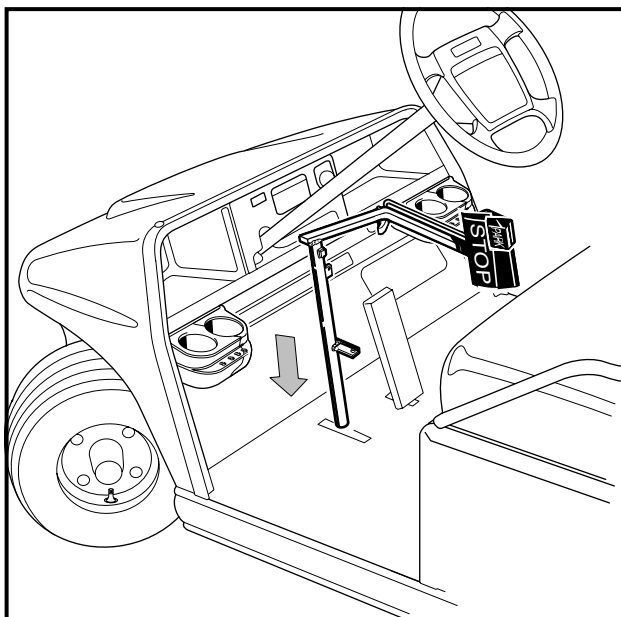
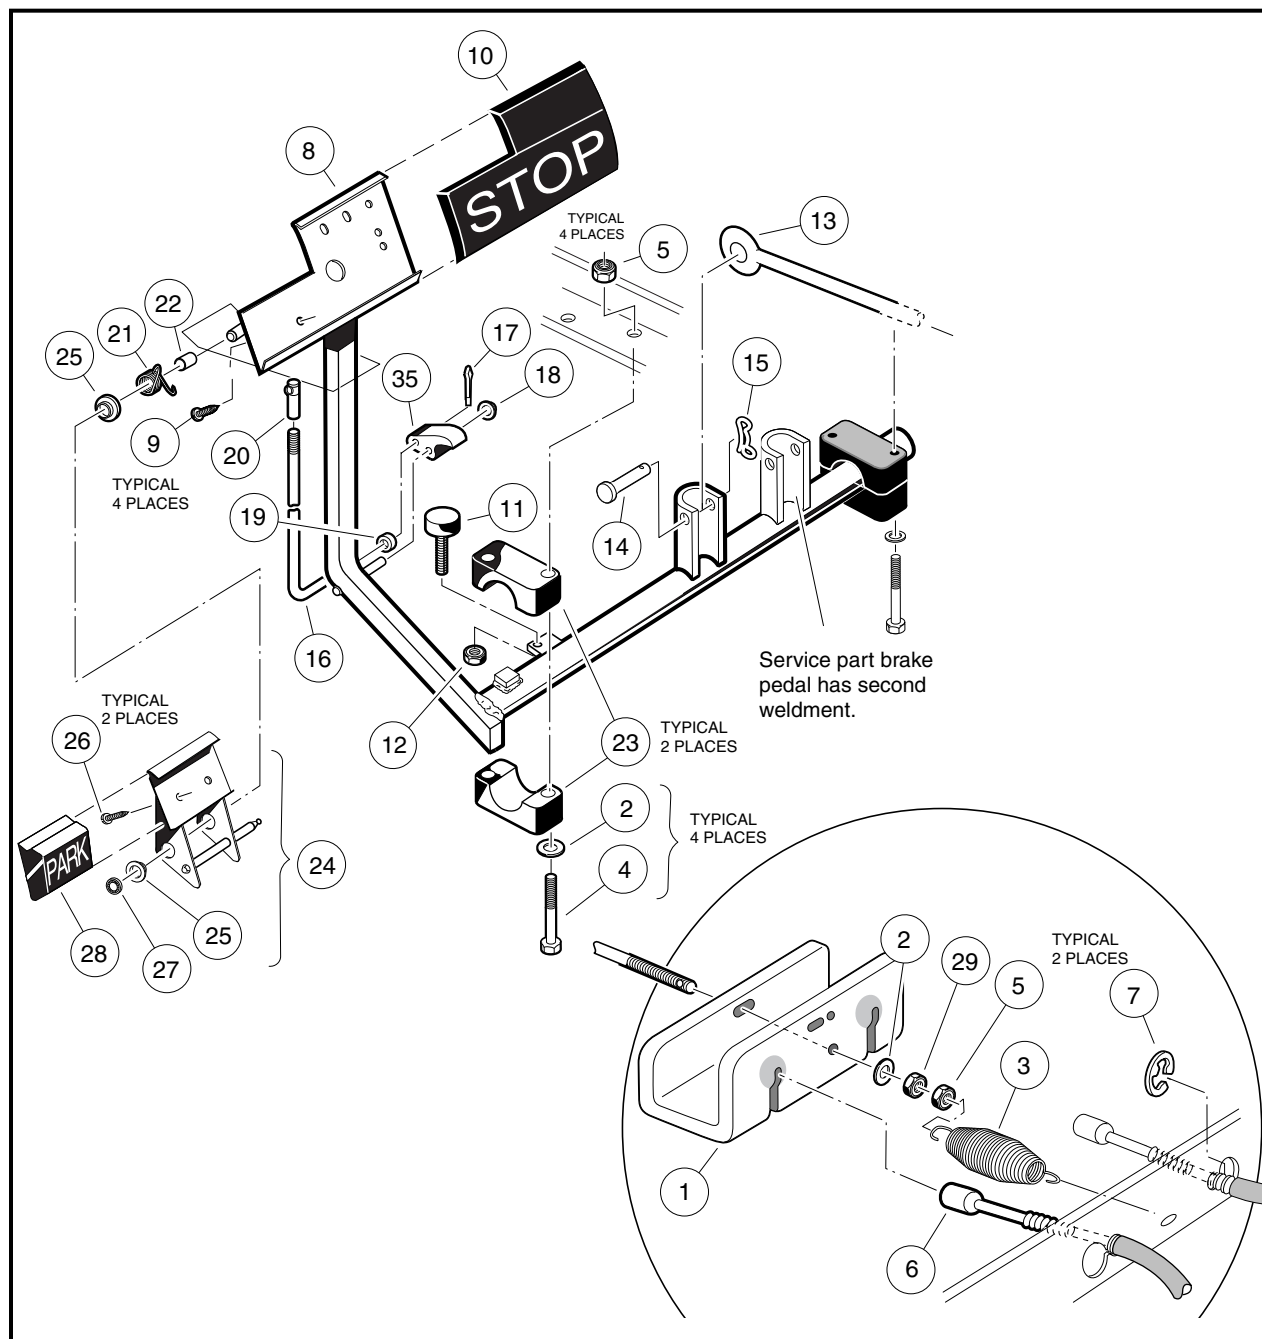

Figure 5-3 Brake Pedal Weldment Through Floor
Figure 5-4 Brake and Park Brake Pedal Assembly
- 3.1. Disconnect the equalizer rod (13) from the pedal shaft by removing the clevis pin (14) and bow-tie pin (15) (**Figure 5-4, Page 5-3**).
1. From the top side of the floorboard, insert the brake pedal assembly through the opening in the floor as shown (**Figure 5-3, Page 5-2**), and install the brake pedal stop bumper (11) on the brake pedal assembly (**Figure 5-4, Page 5-3**). Do not tighten the jam nut (12) at this time.
2. Secure the equalizer rod (13) to the brake pedal assembly (8) with the clevis pin (14) and bow-tie pin (15) as shown **(Figure 5-4, Page 5-3)**.
3. Position and attach brake pedal assembly, mounting blocks (23) and washers (2) to vehicle frame as shown. Tighten the bolts and nuts to 113 in-lb (12.8 N·m) **(Figure 5-4, Page 5-3)**.
- 3.1. To remove the park brake rod and pawl assembly (16 through 19 and 35), remove the push nut (18) and disconnect the ball joint sleeve (20) from the park brake pedal (24) (**Figure 5-4, Page 5-3**). See following **NOTE**.